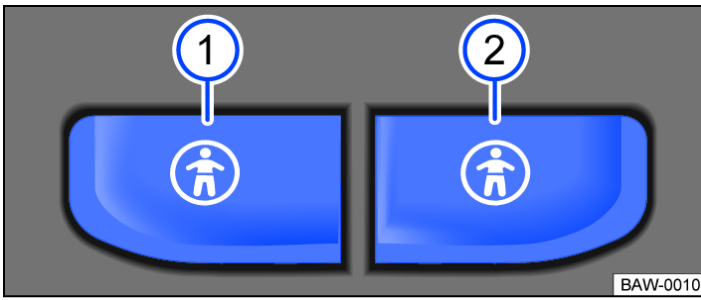

Fig. 1 In the driver door: Button for the electrical childproof lock.
1. Press the left-hand → *fig. 1* ① button or the right-hand → *fig. 1* ② button.